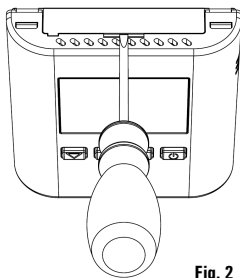

Fig. 2
1. Using a blade screwdriver, extract the battery holder drawer (Fig. 2 and 3).
- 1 Extract the battery holder drawer: insert the flat-blade of a screwdriver tip in the hole and pull up the drawer as shown in figures 2 and 3.